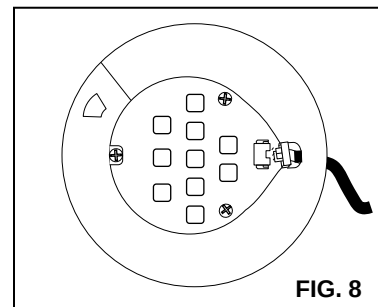

FIG. 8
5. Detach the LED DRIVER QUICK-CONNECTOR from the LED TERMINAL BLOCK. **(FIG. 8)**
7. Insert the new LED DRIVER QUICK-CONNECTOR to the TERMINAL BLOCK. **(FIG. 8)**